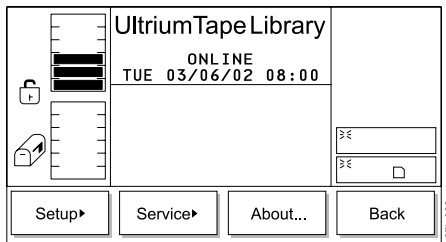

Figure 328. Main Menu (alternate screen)
1. From the Main Menu's initial screen, press the button below the **More** softkey. The Main Menu's alternate screen displays (see Figure 328).